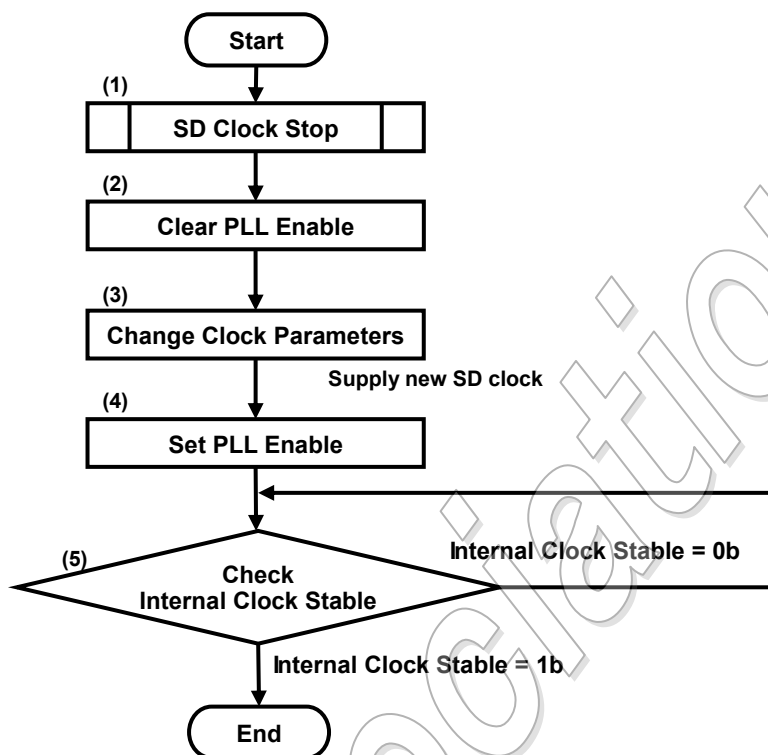

Figure 3-5: SD Clock Change Sequence
This specification uses the double box like Figure 3-1 (e.g., the step (1) in Figure 3-5 and the step (5) in Figure 3-26). It means that the other flows, which already are shown, shall be referred.
The sequence for changing SD Clock frequency is shown in Figure 3-5.